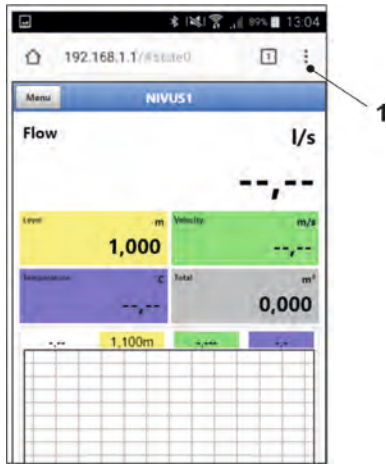
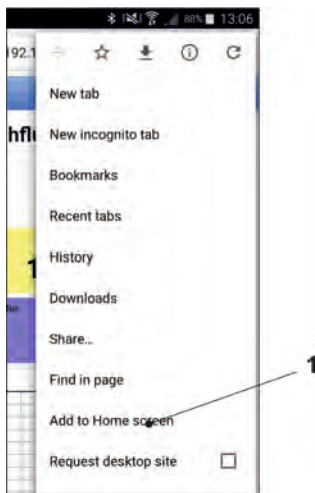

Fig. 31-6 NFM display in browser
Fig. 31-7 Add to Home screen
7. Type "192.168.1.1" into the IP address field and open. The NivuFlow Mobile display (Fig. 31-6) is indicated as soon as the connection has been established successfully.
8. To set a link on your “Home screen” (for direct access) use the “Tabs and Settings” symbol (Fig. 31-6 no. 1) and select “Add to Home screen” (Fig. 31-7 no. 1).